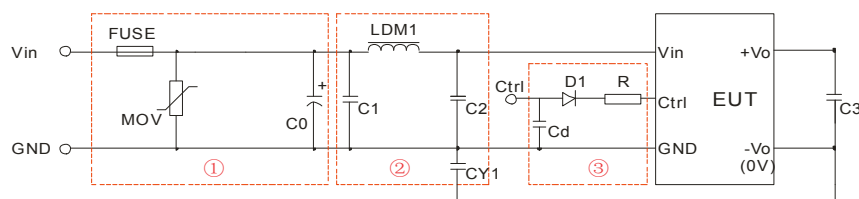

Fig. 3
- ① For EMC tests we use Part ① in Fig. 3 for immunity and part ② for emissions test. Selecting based on needs.
- ② V_C is the voltage of the Ctrl end relative to the GND of the input grounding; V_D is the positive-going conduction pressure drop of D1; I_C is the current flows into the Ctrl end and its value is generally 5-10mA, see Fig. 3-③ for the peripheral circuit of Ctrl end;
- ③ If there is no recommended parameters, no external component is required.